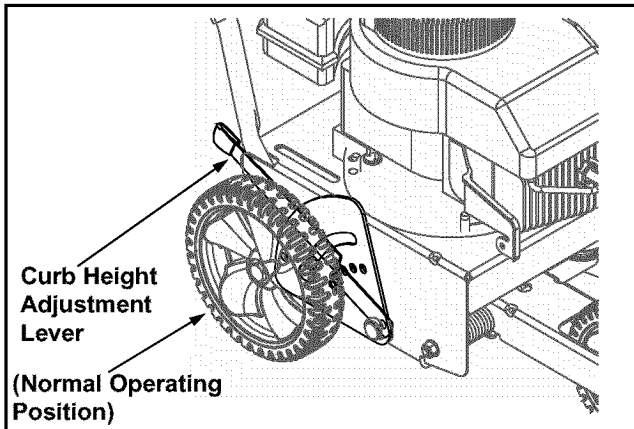

Figure 12
- Lower the right, rear wheel by moving the curb height adjustment lever slightly to the left. See Figure 12.